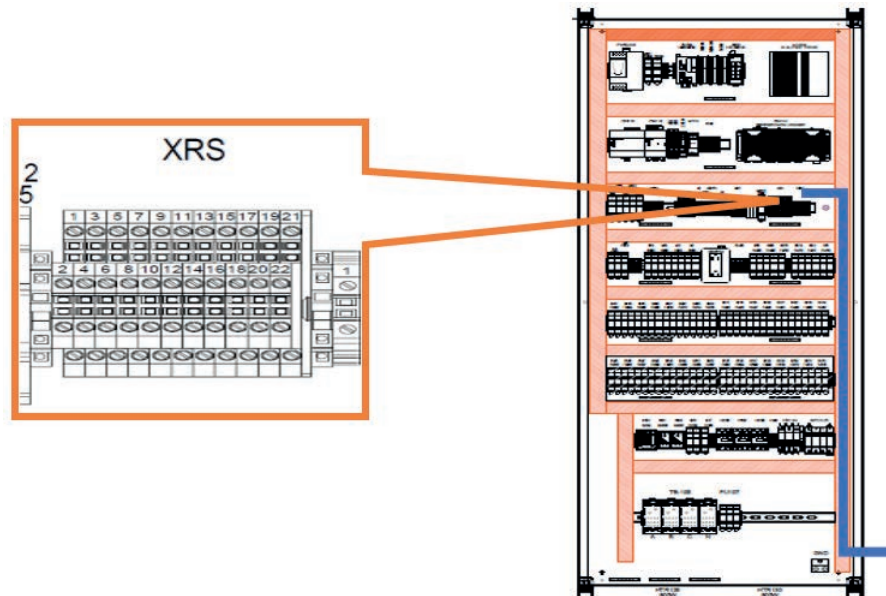

Figure 147. EWCS Dry Contact Connection Location
3. Route cable for the sensor as shown on Figure 147, to terminal block X2B1.